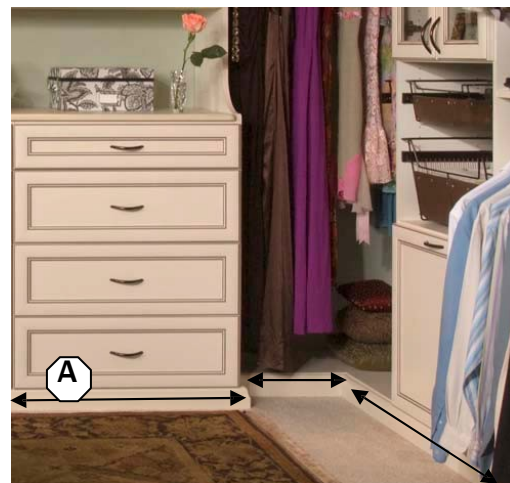
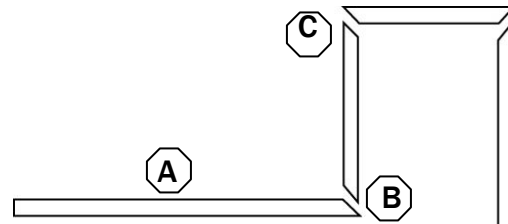

Fig. 14
Fig. 15
1. Measure the sections for molding carefully, from point to point (Fig. 14) along the edge where you will install the molding.
2. Mark your first measurement. (For example, begin left to right in photo Fig. 14, using the base of the hutch as your first cut to mark (see arrows in photo). From the 90° end cut of the panel (assuming the left side of the hutch is against a wall for this example only), mark the distance along the top edge of the base molding ($24" + 1-1/16"$).
3. Your first cut is the width of the hutch face ("A" in Fig. 14), plus the protruding $1-1/16"$ of the molding, which is included on the right end to join with the next piece (cut at a 45° angle). Position your molding panel against the saw guard rail, carefully aligning your mark on the top with the blade and preset notching for a 45° angle mitre cut. (The molding is facing you with the finished side towards your chest.)
5. Next, measure and cut the base molding piece on the right side of the hutch, from "B" to "C" in the overhead view of molding cuts in Fig. 15. Since the first piece you just cut left you with a 45° "inside right" angle end of the board, you will have to trim it off to make an "outside left" 45° mitre cut with which to start the measurement for the piece from position "B" to "C" in Fig. 15.
Shown below are cut marks ("A" and "B") for the base molding piece along the front of a 24" tower or hutch, plus the 1-1/16" on each end to meet the perpendicular molding pieces along the side. (Also shown in overhead view Fig. 15 are the 45° mitre cut angles of the pieces shown in photo Fig. 14.)